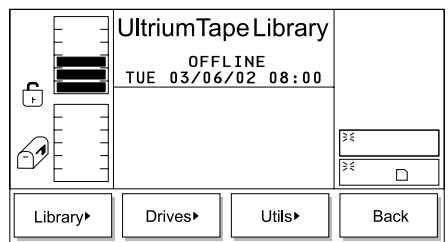

Figure 221. Setup Menu
2. Press the button below the **Setup** softkey. The Setup Menu displays (see Figure 221).